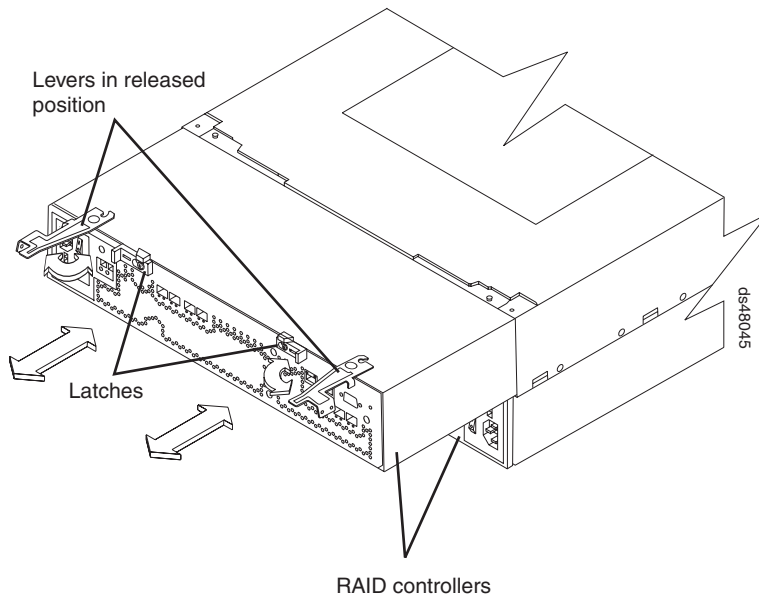

Figure 82. Removing the controller from the storage subsystem
- b. Use the levers to slide the controller from the storage subsystem chassis. (Figure 82 on page 138 shows a controller sliding from the storage subsystem chassis.)